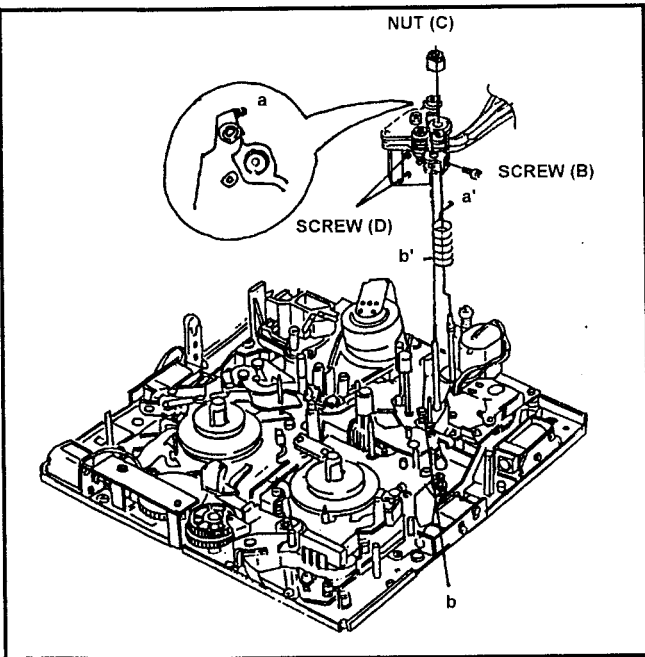

Fig. 6-2-3 Removal of A/C Head Unit
3. Loosen the hex screw (B) and remove the Nut (C). Hang off the Head Height Adjustment Spring and then remove the A/C Head Unit as shown in Figure 6-2-3.
3. Remove the 2 screws (A) and disconnect the connector P5004 on the RF AMP and P30 on the Servo P.C.Board, then remove the A/C Head from the A/C Head Plate.
4. Remove the Shield Cover by removing 2 screws (D) as shown in Figure 6-2-3.